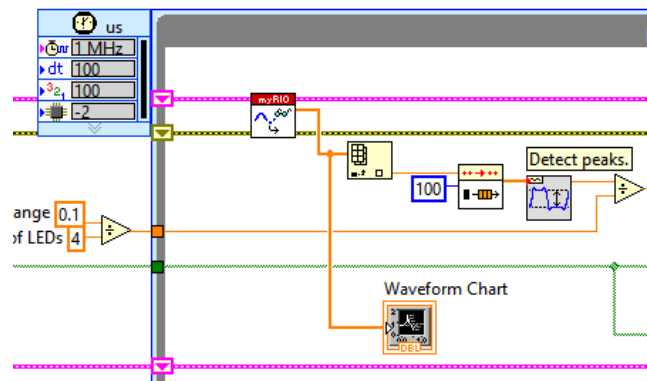

Figure 4.7: Wiring the Waveform Chart
4. Wire the Waveform Chart to the output of the Read function as shown in Figure 4.7.